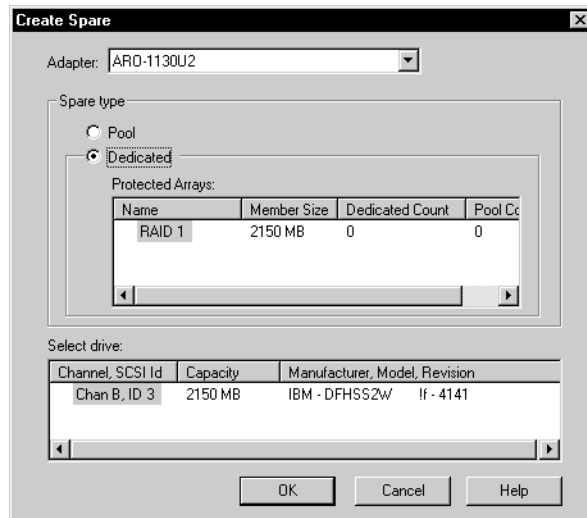

Figure 5-6. Create Spare Dialog Box
- 2 Click  to display the Create Spare dialog box, as shown in Figure 5-6.